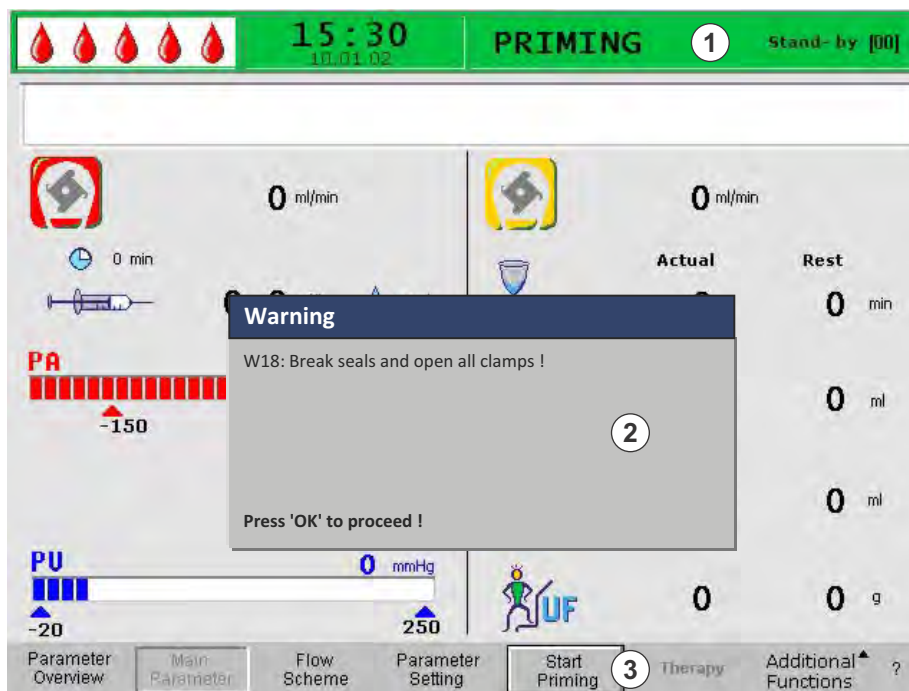

Fig. 5-2 Main Parameter screen - Start Priming
- ↪ The *Main Parameter* screen is displayed by default. The status bar indicates the current phase (*Priming*) and the current step of the phase (*Stand-by [00]*, Fig. 5-2, ①). In the menu bar, the cursor is located on the *Start Priming* item (③). The label changes between black and gray (blinking) to indicate that an input is expected from the user.
- ↪ The *Warning* window appears indicating the message *W18: Break seals and open all clamps !* (②).